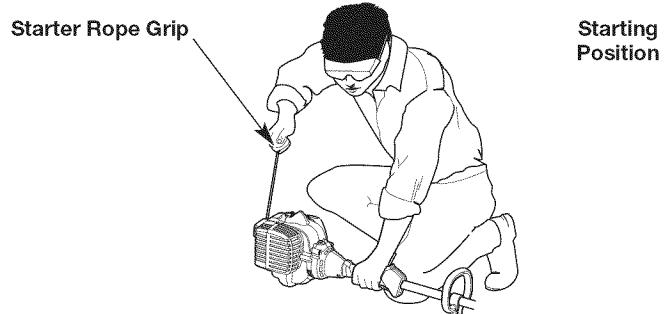

Fig. 10
WARNING: Avoid accidentally starting the unit. To avoid serious injury, the operator and the unit must be in a stable position when pulling the starter rope (Fig. 10).
4. Crouch in the starting position (Fig. 10).
6. Continue to hold the throttle control. Pull the starter rope with a controlled and steady motion **5 times** to start the engine (Fig. 10).